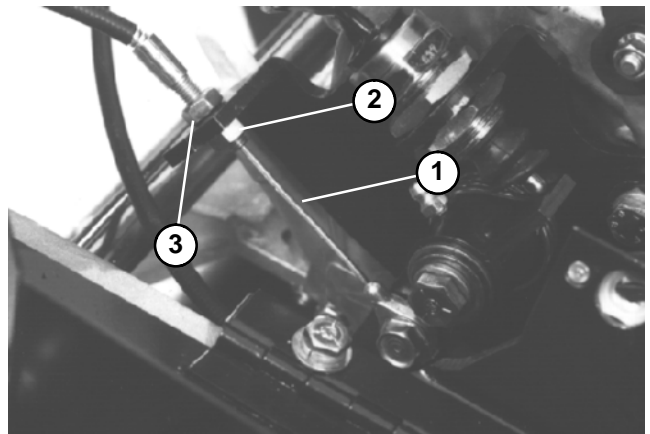

Figure 4
4. To increase cable tension, loosen front cable jam nut and tighten back cable jam nut (Fig. 4) until a force of 7 to 9 lbs (31 to 40 N) is required to engage clutch control. The force should be measured at the control knob.